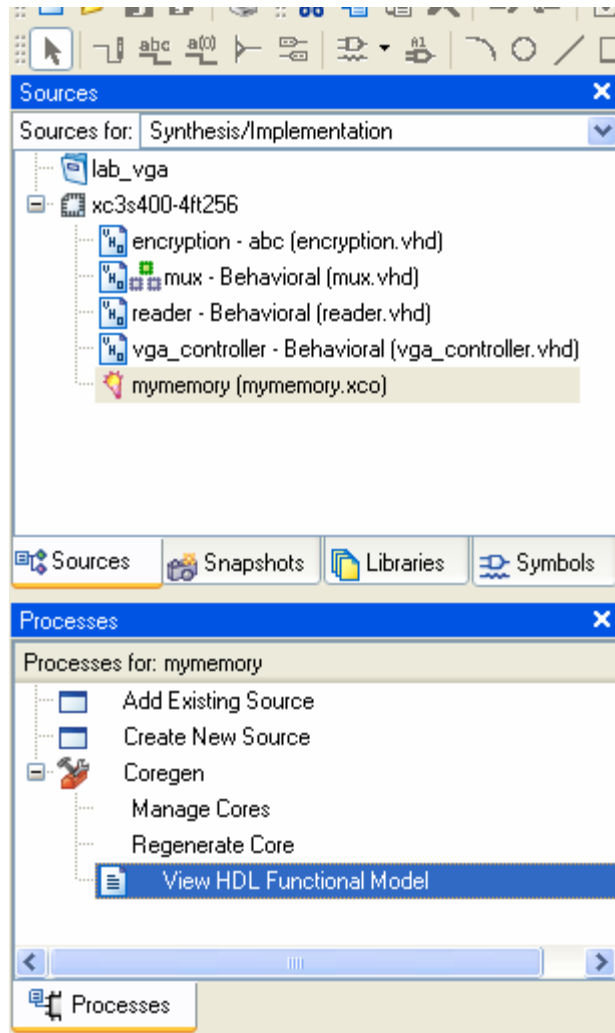

Figure 7. View HDL source of the memory.
g. If you want to see the VHDL of your memory, highlight the source **mymemory** in **Sources** and double click on **View HDL Functional Model** (Figure 7). **Don't change anything in this code!**